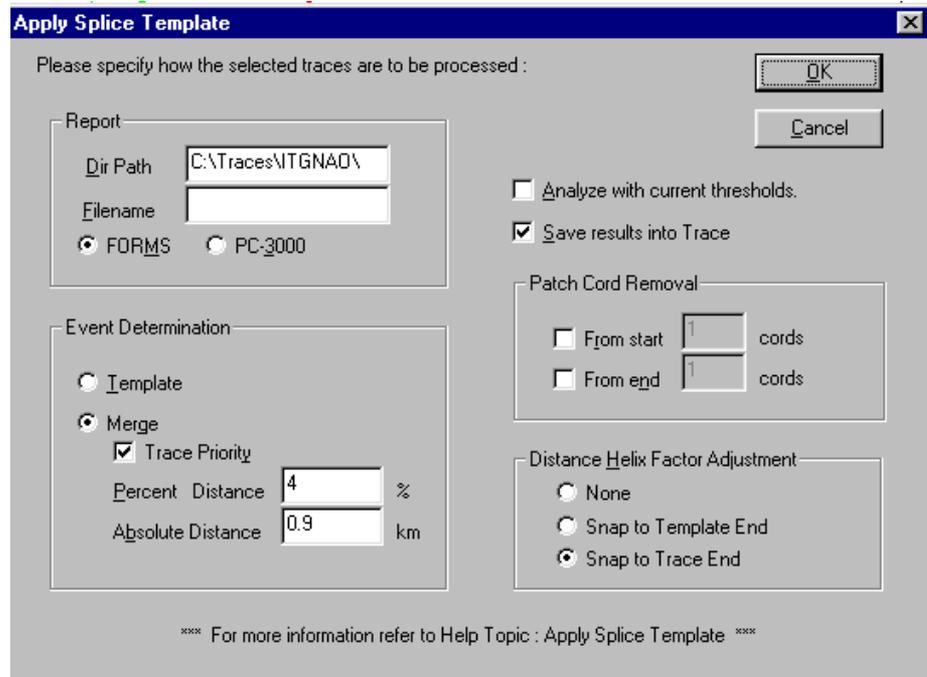

Figure 11-4: Apply Splice Template Dialog Box
4. Set up the Apply Splice Template dialog box as shown in Figure 11-4.